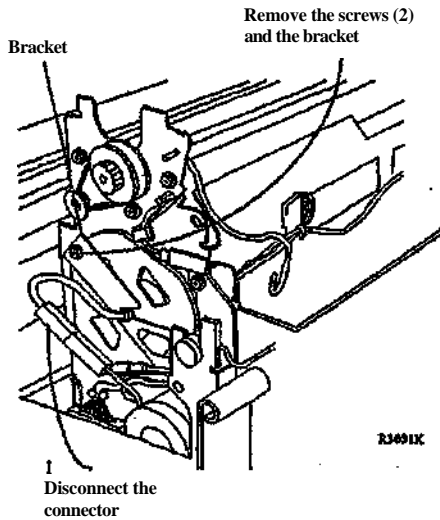

Figure 2. Removing the Bracket (Left side)
4. (Figure 2): Disconnect the Heat Rod and remove the bracket (Left side).